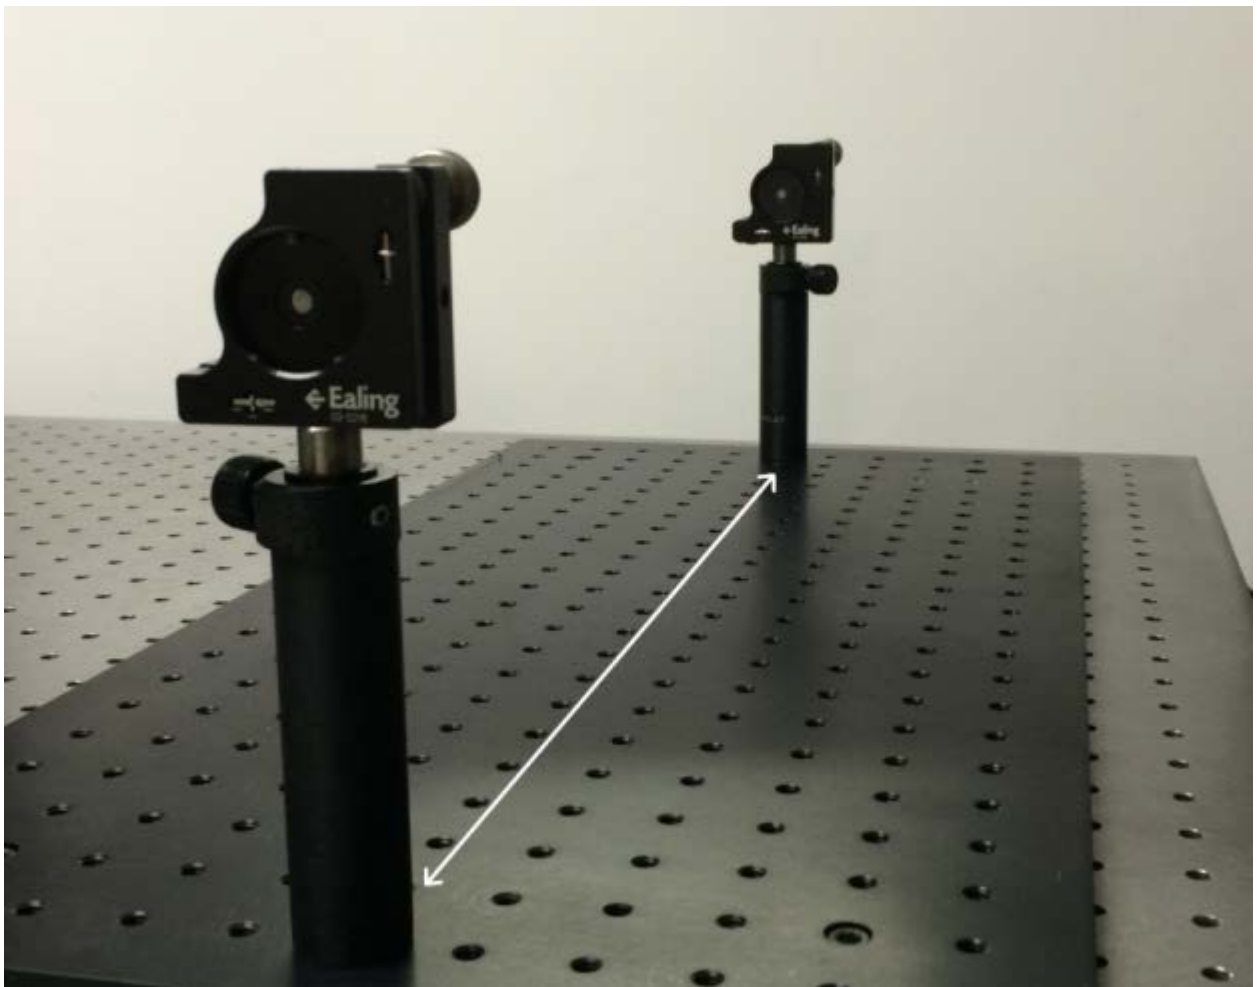

Figure 19
Step 2: Adjustment to the same height which will be within the height range of the HeNe tube and mount them at opposite ends of the breadboard. Keep them aligned on the same row of threaded holes on the breadboard as seen in the figure 19.